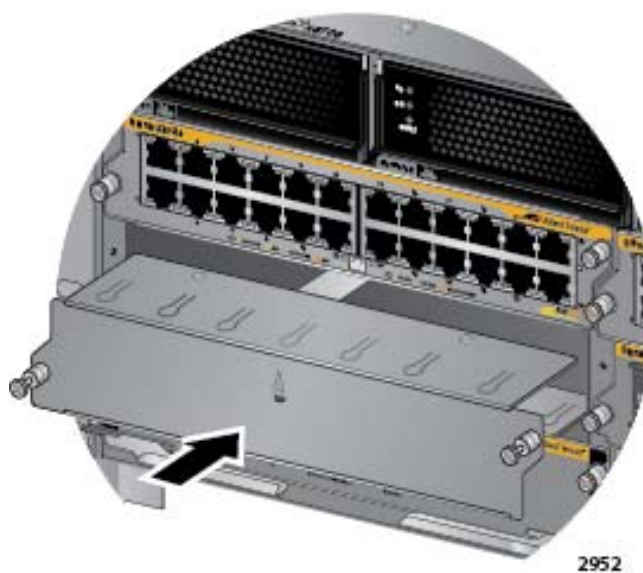

Figure 73. Installing a Blank Slot Cover
1. Position a blank slot cover over an unused slot, as shown in Figure 73.